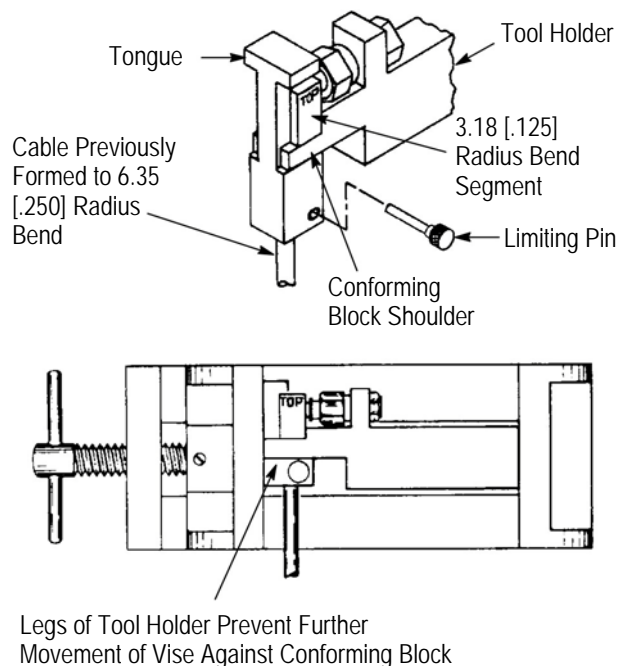

Figure 16
8.2. To Make 3.18 mm [.125 in.] Bends on RG-402 Cable (Figure 16)
4. Place the conforming block over the cable with the tongue of the block in the slot of the tool holder, as shown in Figure 16.